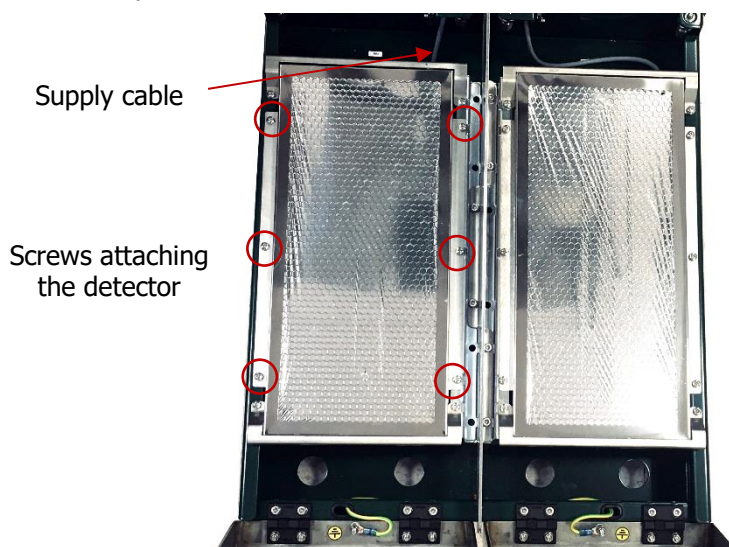

Fig. 84 Attaching the foot detector
- Fix the detector using six socket-head screws M 4 x 6 and tighten the screws properly (see Fig. 84). The screws are equipped with spring washers and one of the screws with a fan washer.
- Using a socket wrench No. 2.5, loosen the six screws attaching the foot detector (see Fig. 84) and remove it carefully.
- Install the detector with support plates in position and connect the supply cable connector. Secure the detector using six socket-head screws M 4 x 6 and tighten the screws properly (see Fig. 84). The screws are equipped with spring washers and one of the screws with a fan washer.